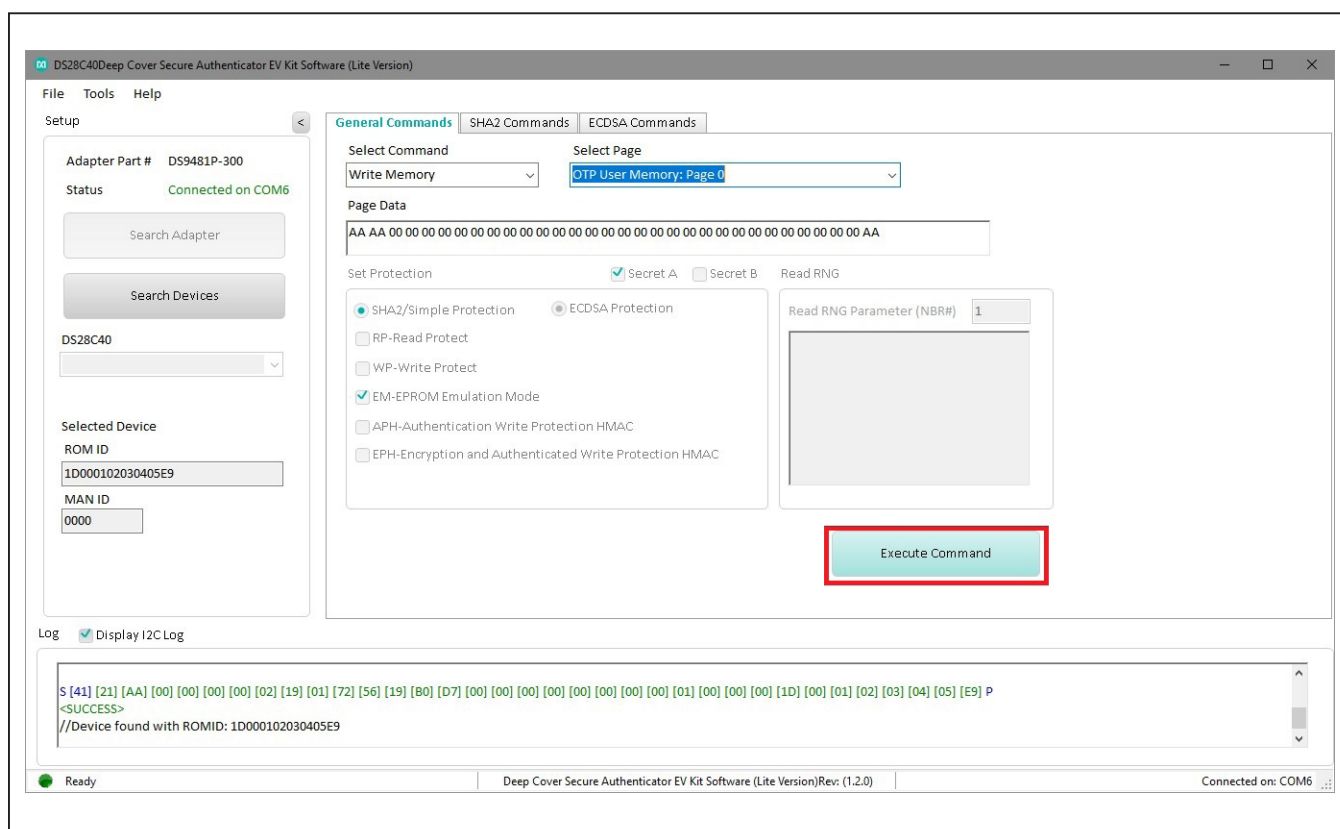

Figure 16. Execute Command
- 5) Click the **Execute Command** button (Figure 16). The I²C communication is displayed on the **Log** window and aids to understand how the command is executed.
- 8) Click the **Execute Command** button (Figure 16).